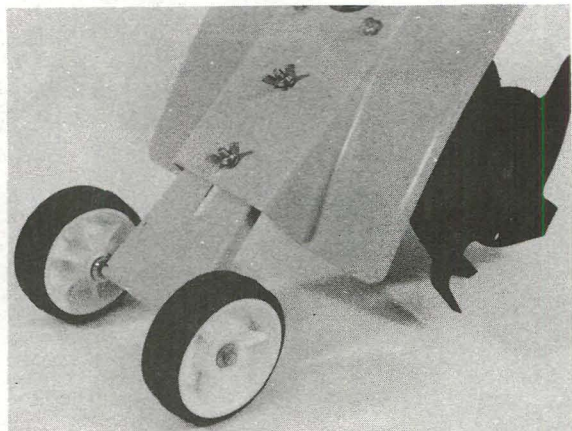

Fig. 3
1. Assemble the wheel and adjustment bracket with 2 carriage bolts, 2 lock washers and 2 wing nuts to the guard (Fig. 3).